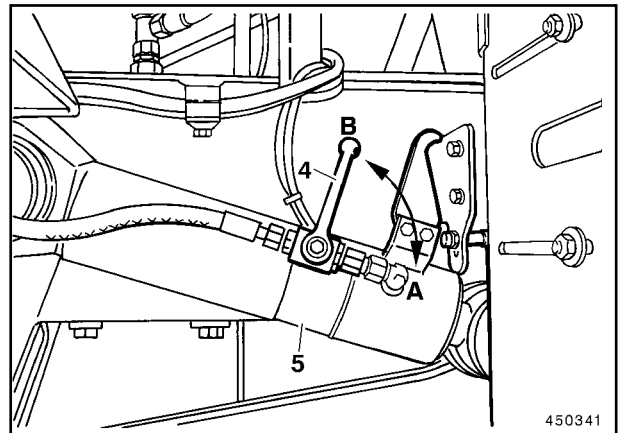

Fig. 12
Set lever (4, Fig. 12) on ripper cylinder (5) to position "B" to secure the rear ripper against inadvertent movements.